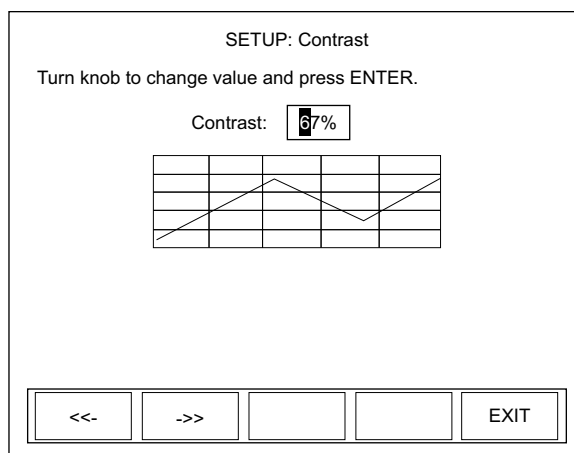

Figure 4-60. SETUP: Screen Contrast (Changing the Values)
2. Press the ENTER/SET button to Display the SETUP: Contrast screen (Figure 4-60).